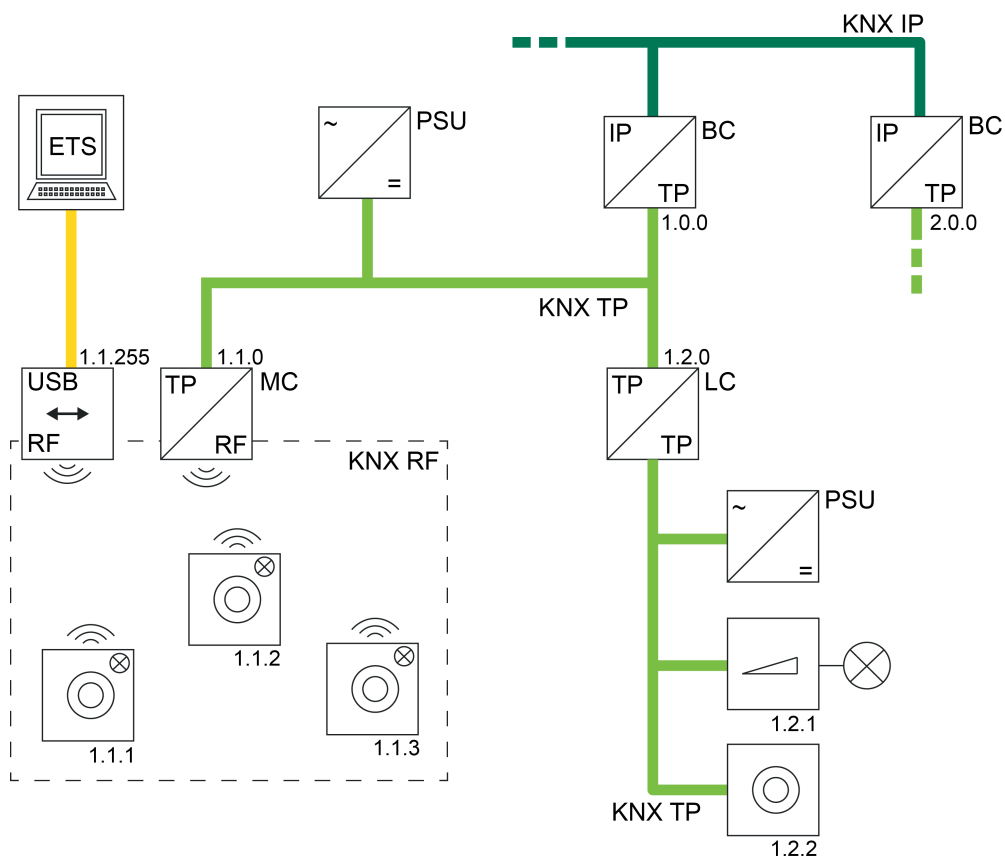

Figure 31: Example of a possible KNX topology with a KNX RF USB data interface
- Use of a KNX RF USB data interface (figure 31):